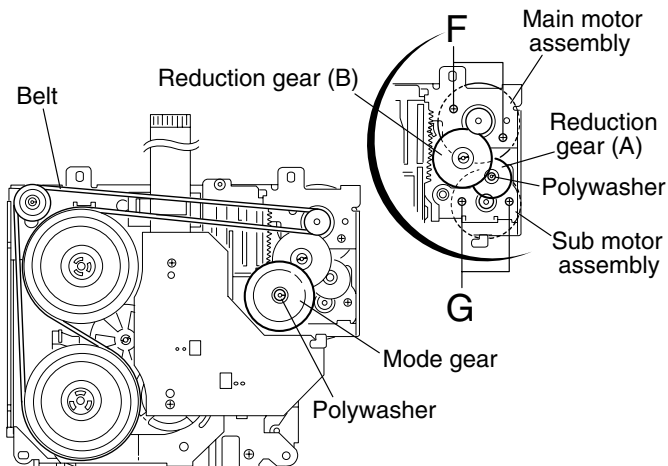

Fig.42
■ **Removing the main motor assembly / sub motor assembly (See Fig.42 to 44)**
3. Pull out the reduction gear (B).
4. Remove the polywasher and pull out the reduction gear (A).